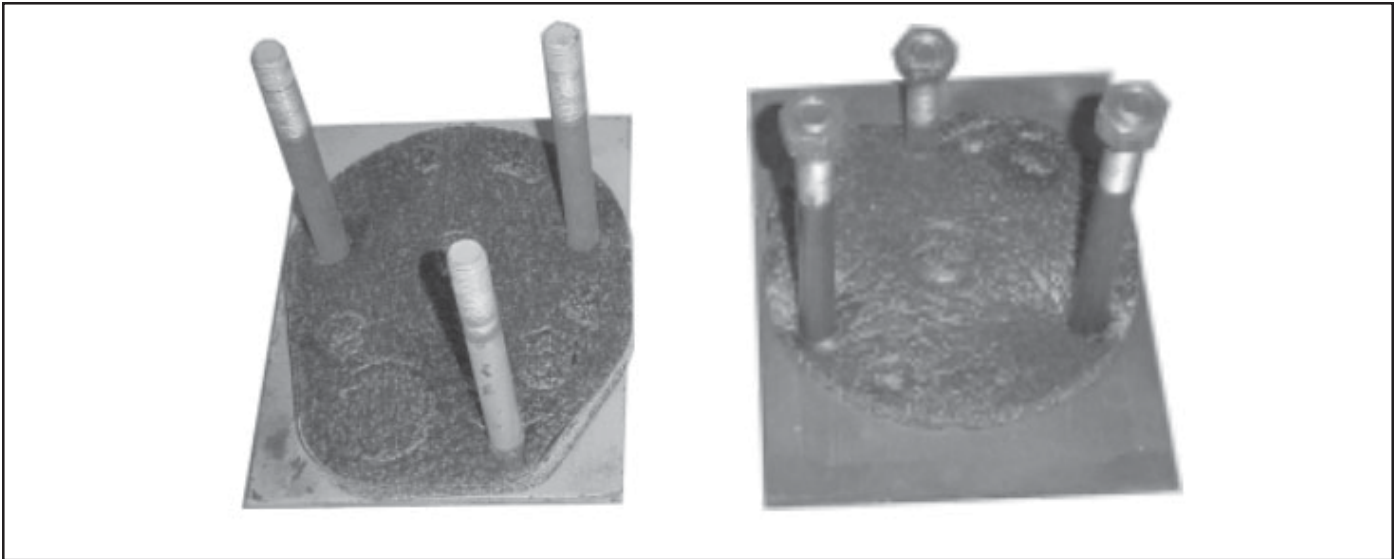

Figure 4 - Approved Shipping Covers
- 3.1.11** Remove the failed service portion and apply shipping cover (Figure 4) and tighten nuts.
- 3.2.11 Remove the failed emergency portion and apply shipping cover, as shown in Figure 4, and tighten nuts.